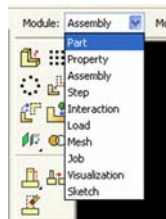

Figure 7. Module dropdown selection.
- 3 The update will be automatic. *[For Parts the user must toggle the Module dropdown (Figure 7) from Part to Assembly to see the change. This is because although the Assembly Module is active, the screen is blank because only the Part was modified. But the toggle described above alerts the Assembly to be updated by the Part.]*